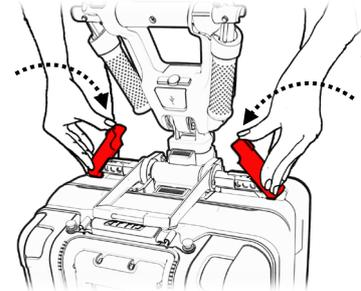

Figure 57
- Close the two separation levers until they click (see Figure 57). In case the separation levers require too much force to operate, you should apply horizontal pressure on the driving console handle towards the center of the ATTO. This will release the pressure on the separation levers and will make them easier to close.